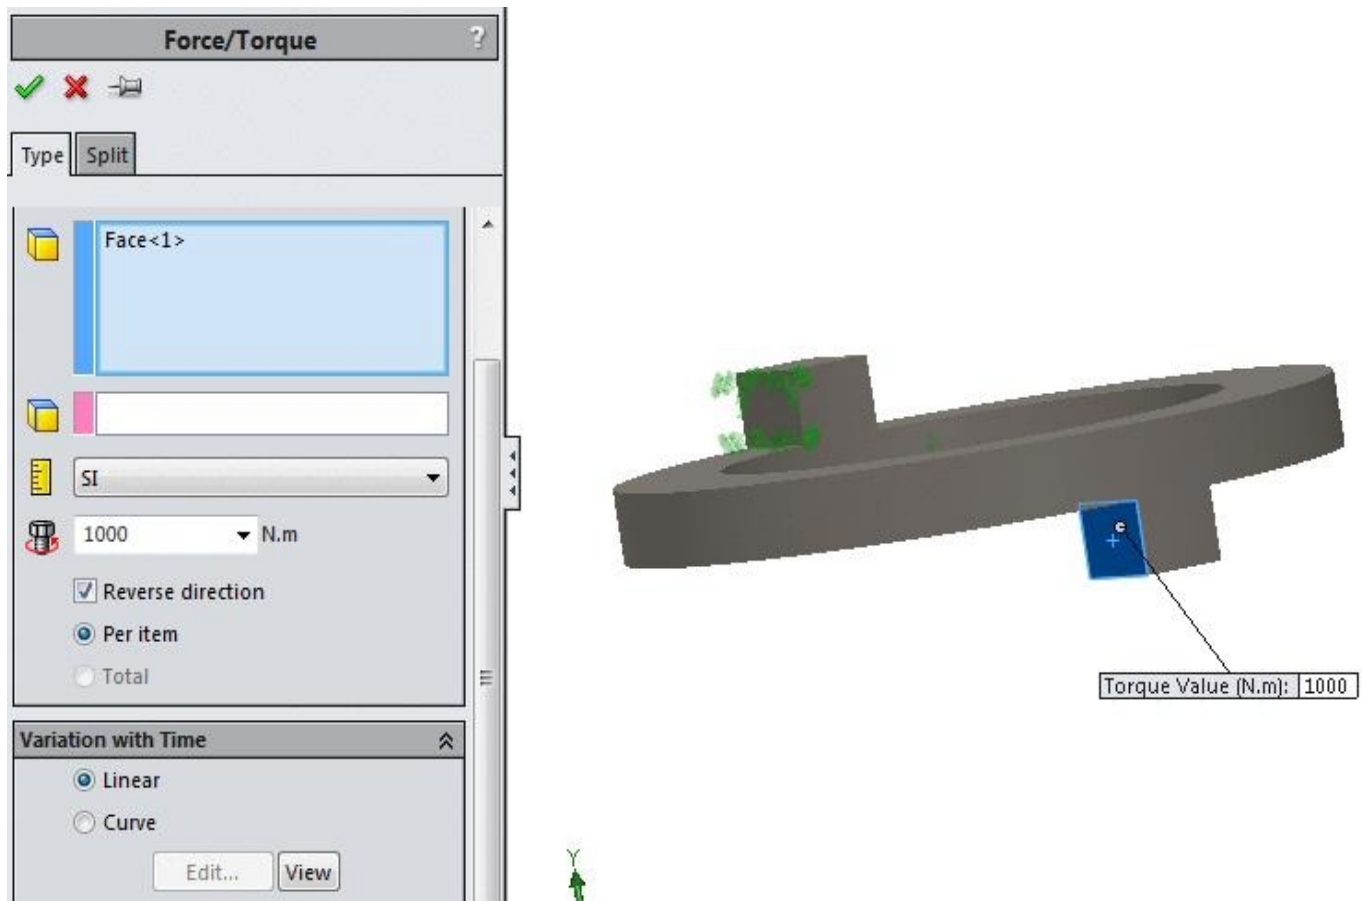

Figure-29. Face selected for applying torque
- Select the face as shown in Figure-29.